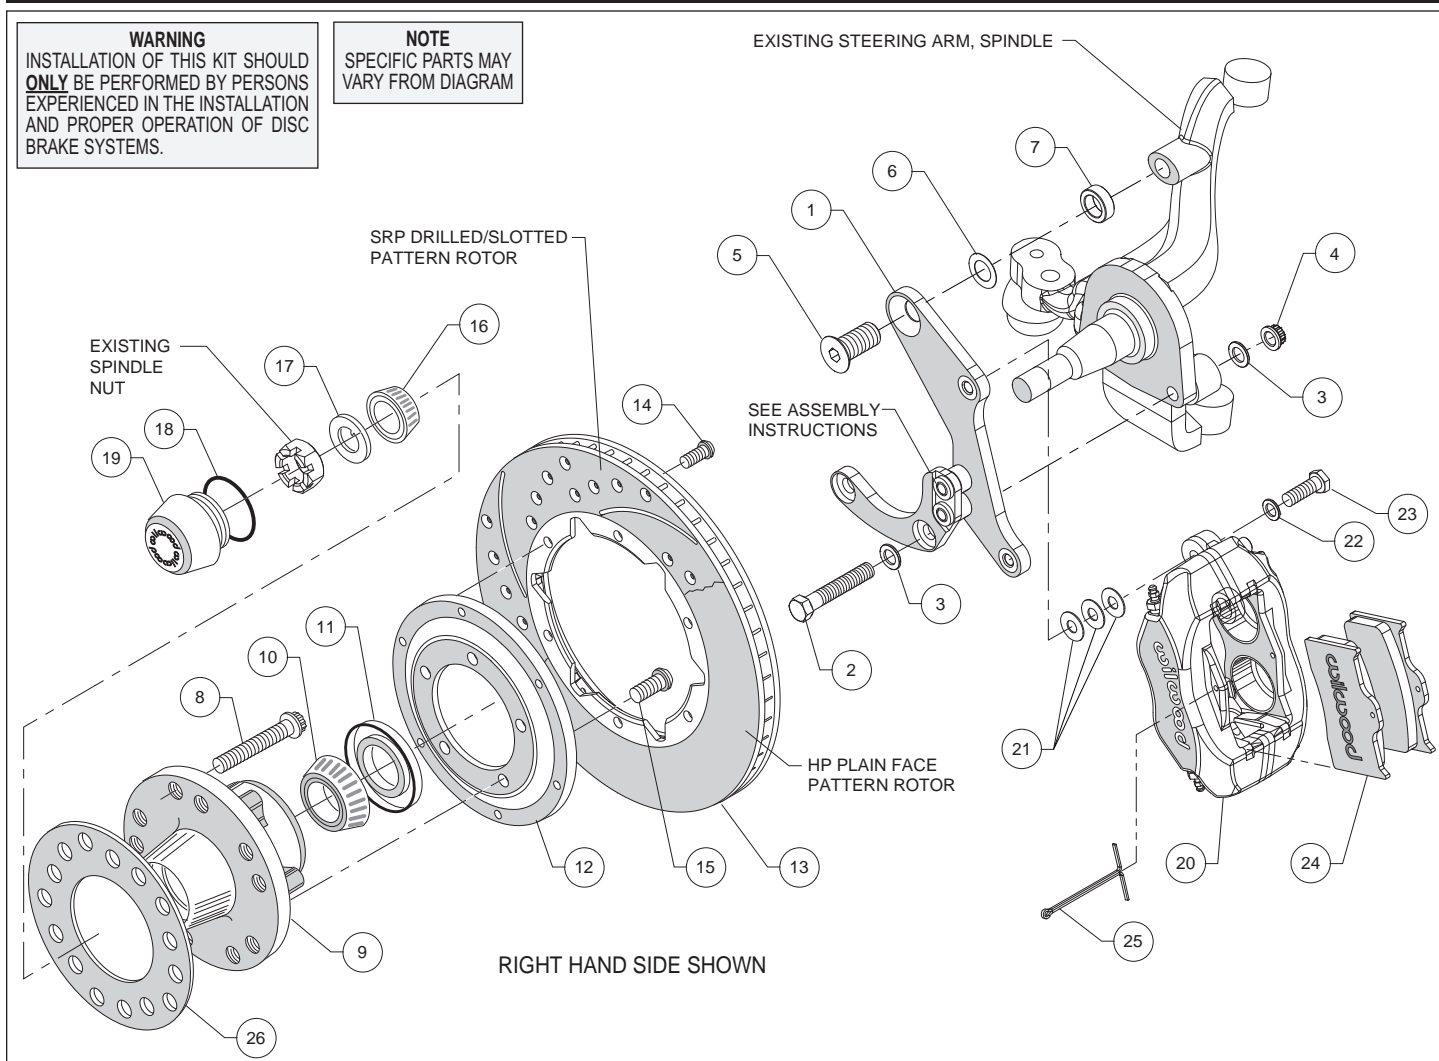
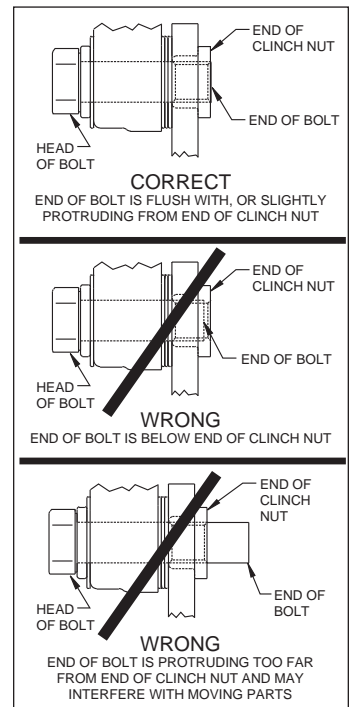

Figure 1. Typical Installation Configuration
Figure 3. Clinch Nut Engagement Diagram
Assembly Instructions (numbers in parenthesis refer to the parts list and Figure 1 on the preceding pages): **CAUTION:** All mounting bolts must fully engage clinch nuts. Be sure to check that all bolts are either flush or protruding through flanged side of clinch nut after shimming, Figure 3.
- The caliper mounting bracket (1) has been assembled at the factory for alignment purposes. Loosen the two bolts that secure the brackets together so that the bolts are hand tight only. This will enable the bracket assembly to be adjusted to accommodate various spindle tolerances during assembly. Align bracket with the two lower holes on the spindle face and attach using bolts (2) and washers (3), and secure using nuts (4), as shown in Figure 1 and Photo 1. Install bolt (5) through top of bracket while placing spacer (7) and shim (6) between bracket and spindle, Figure 1. Initially use one .015" thick shim (6) on the top bolt between the bracket and upright. Temporarily tighten the mounting bolts. Ensure that the flanged heads of the clinch nuts in the bracket are facing outboard, Photo 1. **NOTE:** The bracket must fit squarely against the mounting points on the spindle. Inspect for interference from casting irregularities, machining ridges, burrs, etc.
- Check that the bracket is aligned parallel to the rotor by assembling and installing the hub/rotor per the steps below. If not, adjust by adding or subtracting shims (6) between the spacer (7) and bracket, Figure 1.
- Install the grease seal (11) by pressing into the backside of the hub (9), flush with the end of the hub, Photo 3.
- Orient the rotor (13) and the rotor adapter (12) as shown in Figure 1 and Photo 4. Attach the rotor to the adapter using bolts (14). Using an alternating sequence, apply red *Loctite*® 271 to the threads, and torque to 25 ft-lb.
- Mount the adapter/rotor assembly (12/13) to the hub (9) using bolts (15), as shown in Figure 1 and Photo 5. Using an alternating sequence, apply red *Loctite*® 271 to the threads, and torque to 45 ft-lb.
- Pack the small outer bearing cone (16) with high temperature disc brake bearing grease and install into hub (9). Slide the hub/rotor assembly onto the spindle. Secure using spindle washer (17) and OEM spindle nut, Photo 6. Adjust bearings per OEM specifications. Install saved OEM nut lock (if any) and a new cotter pin (not supplied).
- Screw dust cap (19) into hub (9), Photo 7. Friction created by the o-ring (18) on the dust cap keeps it from unscrewing. **NOTE:** The O.D. of the existing OEM spindle washer may be larger than the I.D. of the dust cap not allowing it to seat against the hub face. Therefore, use the spindle washer (17) supplied with the kit instead of the OEM washer.
- NOTE:** Please reference the caution statement at the beginning of the assembly instructions. Mount the caliper (20) onto the caliper mounting bracket (1) using bolts (23) and washers (22), as shown in Figure 1. Initially place three .035" thick shims (21) on each bolt between the caliper and the bracket, Photo 8. Temporarily tighten the mounting bolts and view the rotor (13) through the top opening of the caliper. The rotor should be centered in the caliper, Photo 9. If not, adjust by adding or subtracting shims between the bracket and the caliper. Always use the same amount of shims on each of the two mounting bolts. **NOTE:** The end of each bolt must be flush with or slightly protruding from the head of the clinch nut, as shown in Figure 3. If necessary place spare shims between washer (22) and caliper mounting ear to achieve the proper clinch nut engagement. Once the caliper alignment and clinch nut engagement are correct, remove the bolts one at a time, apply red *Loctite*® 271 to bolt threads, and torque to 40 ft-lb.
- Install the disc brake pads (24) into the caliper, with the friction material facing the rotor (13), and secure in place using cotter pin (25), Photo 10.
- Temporarily install wheel and torque lug nuts to manufacturer's specification. Ensure that the wheel rotates freely without any interference. **NOTE:** Wheel spacer (item 26) **MUST** be used if any wheel contact surfaces overhang the outside diameter of the hub face. See warning on page 3.